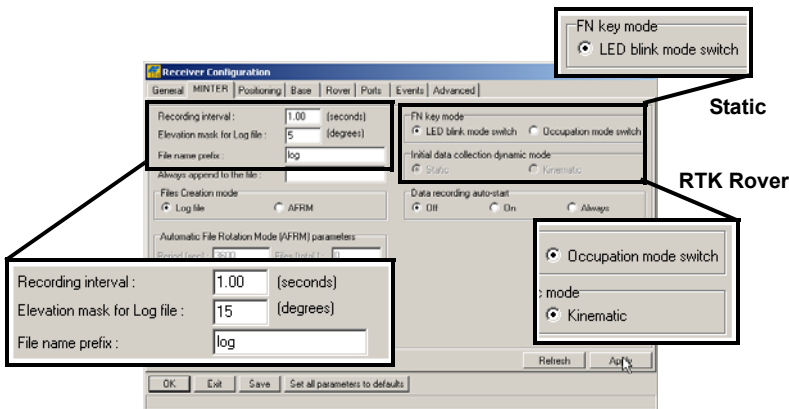

Figure 3-8. Configure Receiver's MINTER for Data Recording
7. Click the *MINTER* tab, enter the following settings (Table 3-4), and then click **Apply** (Figure 3-8).